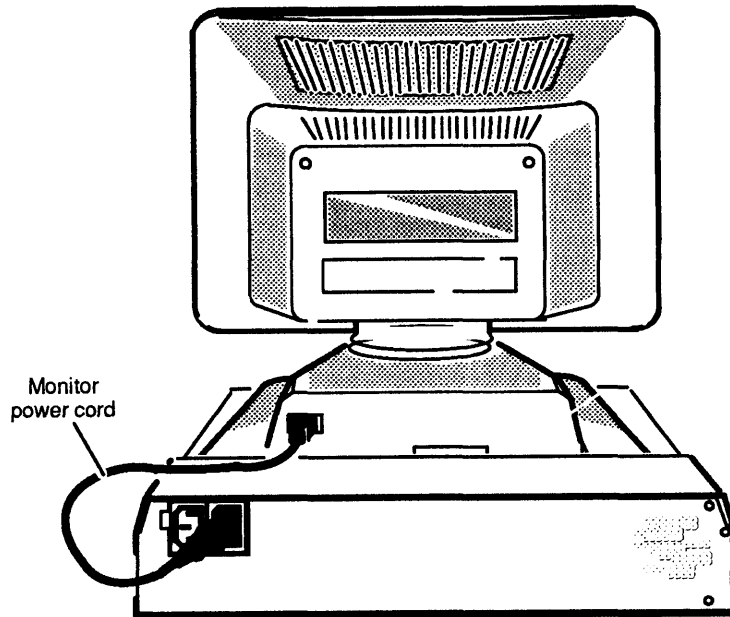

Figure 2-17 Connecting the Monitor Power Cord
2. Plug the female end of the monitor power cord into the ac connector at the back of the monitor, as shown in Figure 2-17.
3. Plug the male end of the monitor power cord into the rightmost ac connector on the back of the computer unit. Figure 2-17 shows the monitor power cord in place.